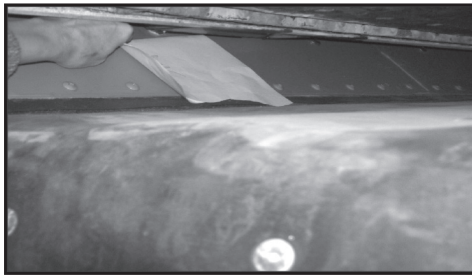

Figure 5
4. Figure 5 - There must be contact between rear pads and main unit. Check for contact by trying to slide paper between pads and main bin. If no contact, adjust MULTIBIN.